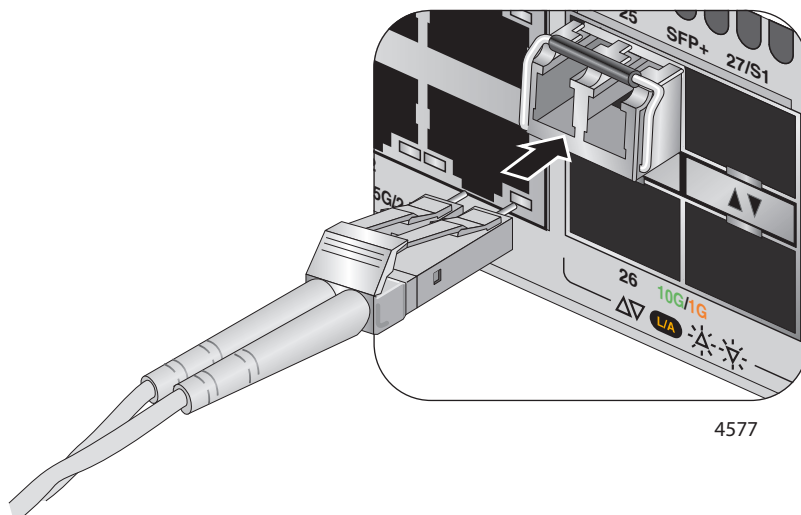

Figure 79. Connecting a Fiber Optic Cable to an SFP or SFP+ Transceiver
6. Connect the fiber optic cable to the transceiver, as shown in Figure 79. The connector on the cable must fit snugly into the port, and the tab must lock the connector into place.